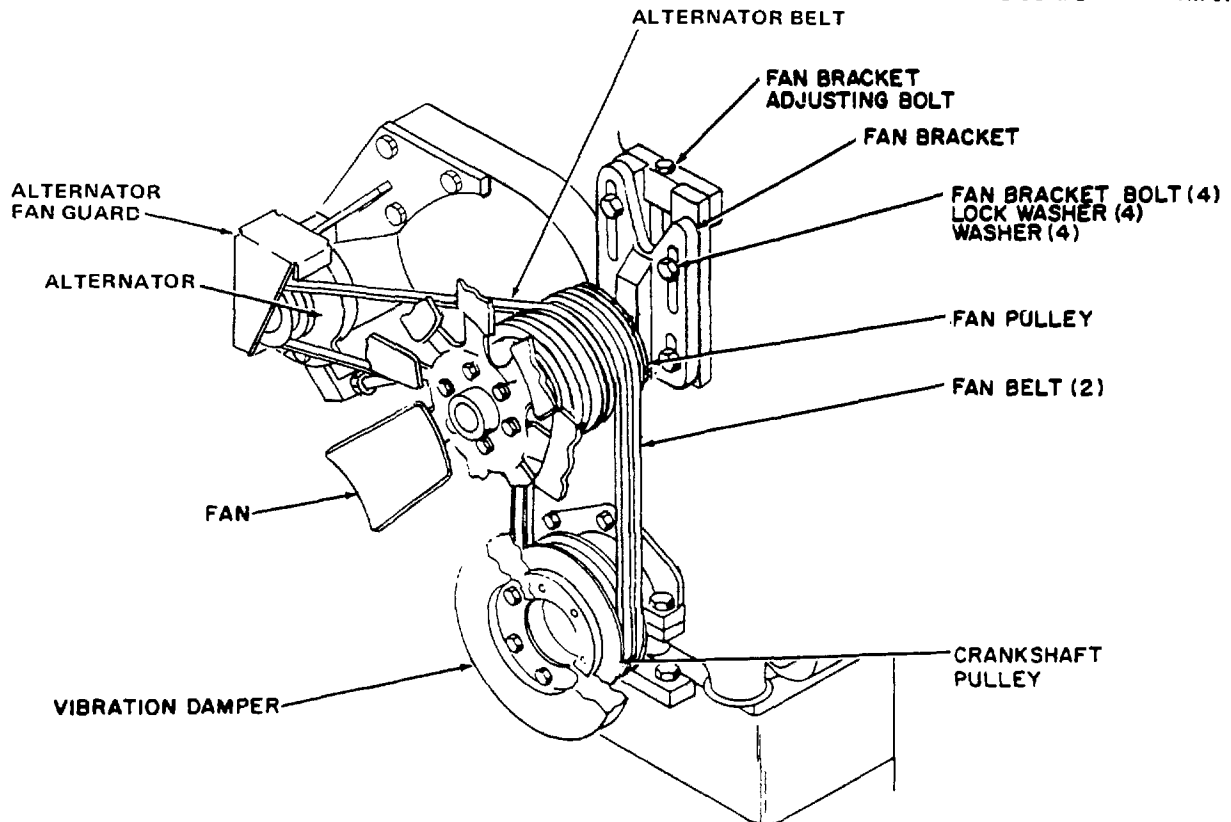

Figure 4-66. Idler Pulley Assembly, Inspection and Replacement
a. Inspect. Inspect the idler pulley assembly (see figure 4-66) for cracking, bending, or other damage or deformity.
(1) Remove the fan guard (see paragraph 4-106), fan (see paragraph 4-119), fan belts see (paragraph 4-107), and alternator belt (see paragraph 4-30).
(2) Remove the fan bracket bolts, lockwashers, and washers.
(3) Remove idler pulley assembly from the engine.
(4) Install idler pulley assembly onto engine and secure with fan bracket bolts, lockwashers, and washers.